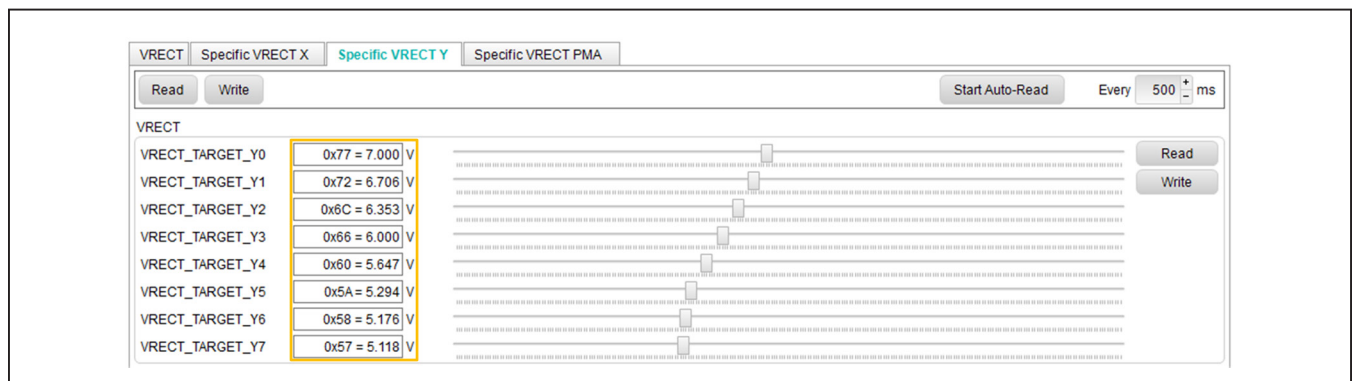

Figure 6. MAX77950 EV Kit GUI (VRECT-RX Tab)
- 1) Change the target values by moving the cursor on the slide bars. In the specific VRECT tab, shown in Figure 6, the user can check the actual electrical representation translated from hexadecimal (Figure 6). The MAX77950 data sheet provides detailed information about the VRECT target values.